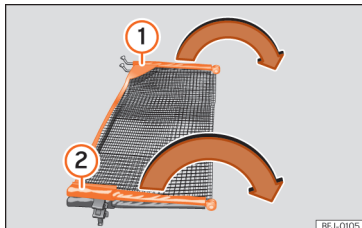

Fig. 151 Deploying the net partition.
Extend the cross rods » **Fig. 151 ①** and **②** of the net in the direction of the arrows until it "clicks".